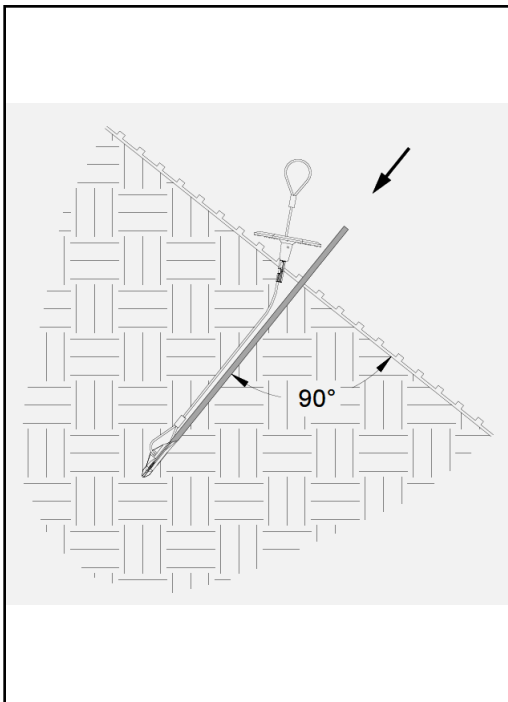

Figure 6: Drive Steel to Drive the Type B1 Anchor into the Ground
2. Using a percussion hammer, guide the drive steel into the ground perpendicular to the slope surface at a smooth pace. Continue driving until the desired embedment depth is reached. (Figure 6) Be careful not to allow the plate to slip downward along the cable tendon during step 2. Remove the plastic stop sleeve from under the plate after desired embedment depth is reached.